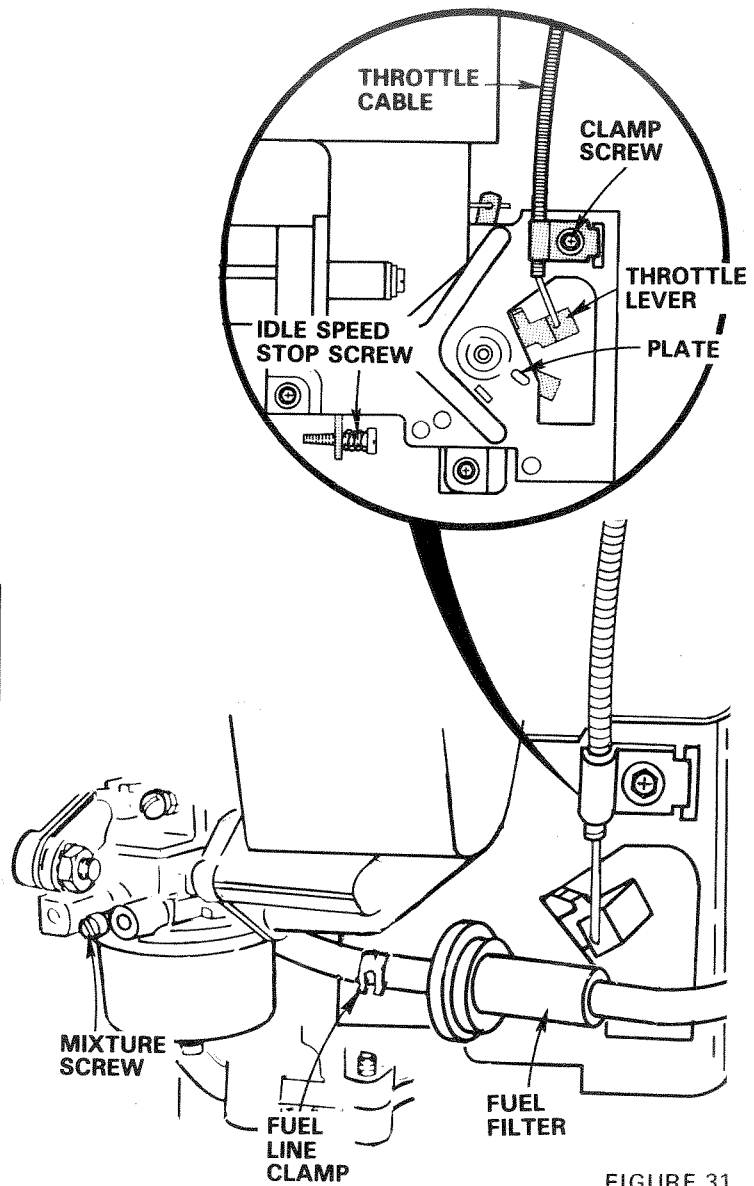

FIGURE 31
- c. Check that hole in Throttle Lever and hole in Plate line up (Fig. 31 - Inset). If holes are not aligned, loosen Clamp Screw and move Throttle Cable until holes are aligned. Tighten Clamp Screw.
- a. Remove Clamps from fuel lines at front and rear of Fuel Filter (Fig. 31).